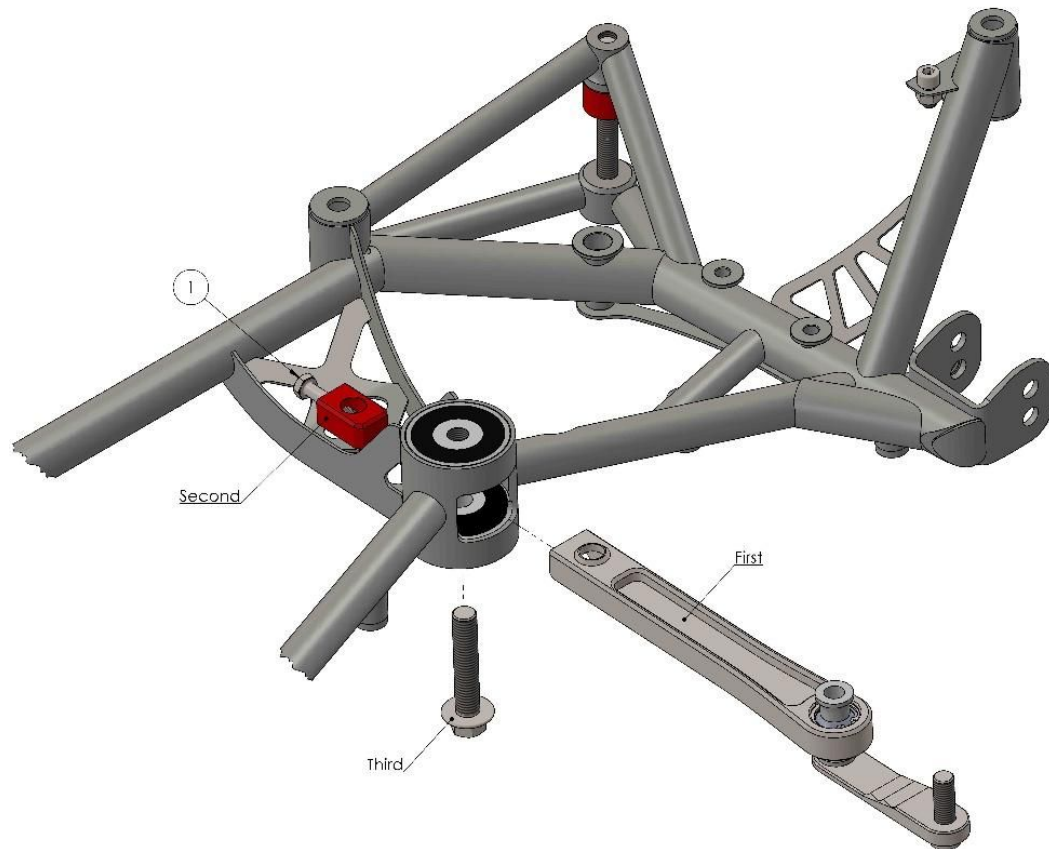

Figure 2 First part of assembling tubular subframe.
- After removing OEM subframe, reattach parts in a correct order. Firstly install Dog Bone with provided Dog Bone adapter. To do so, insert Dog Bone arm between engine bushings, then slide Dog Bone adapter from the other side of mount (Use bolt M8x40 to aim in the middle). Finally, screw Hex. Flange Bolt M14x1,5x70 but do not tighten it. Remove bolt M8x40 (*Number 1 - Figure 2*).